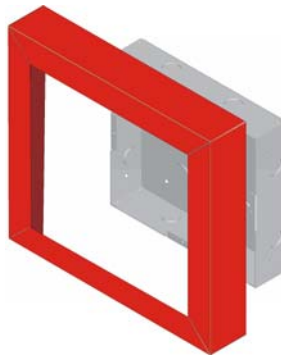

Figure 6 Trim Ring Installation
4. Use the FIK-RA2000TR Ring Trim Kits when you surface mount. Place the trim ring over the backbox as shown in Figure 6.